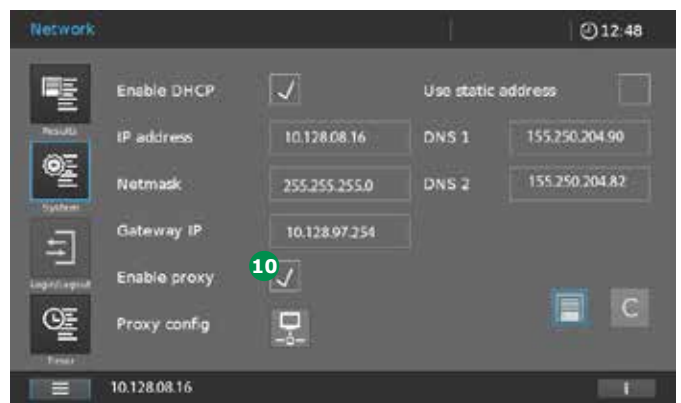

Figure 26 - After closing the previous window shown in Figure 25, the network window will appear again
4. Enable proxy **10** in the Network menu (Figure 26) and click on the "save" button. You will be redirected to the system screen as shown in Figure 27.